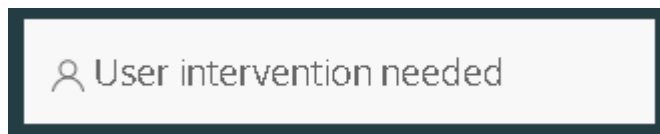

Figure 10-15 Web Interface Intervention Message
2. The web site will indicate when user intervention is required (Figure 10-15).